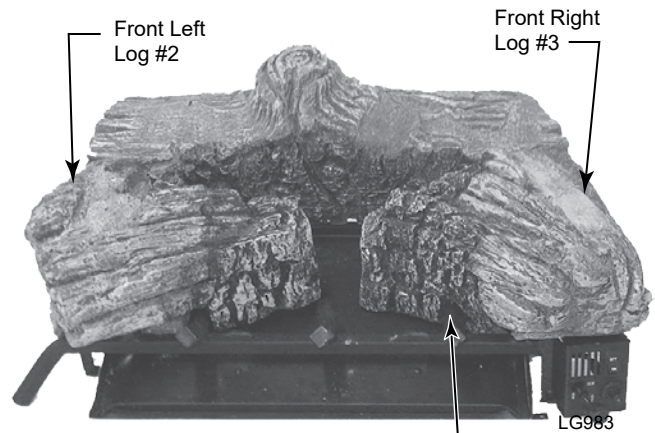

**Figure 19**
1. Align pins on bottom of rear log #1 with pins on grate bar and place on grate. *Figures 19 and 20*